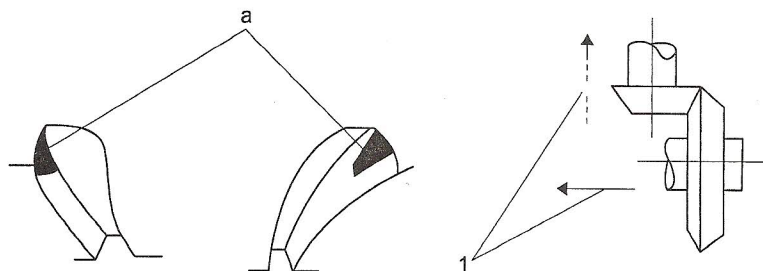

Fig. 05-46
- (1) In case the engagement trace is like what is shown as (a), then move the driven gears towards the driving gears. If finding the clearance is too little, then move the driving gears outwards. Moving direction for gears is shown in (1) (Please see in Fig. 05-46).